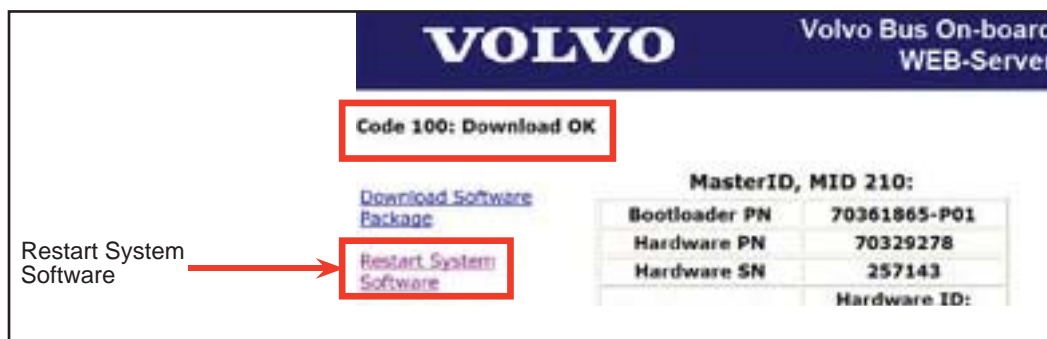

Figure 9 - Typical View of Restart System Request
- 1.18. Make sure the reprogramming was successful by verifying if the "Code 100: Download OK" is displayed in the window. If so, click on "Restart System Software" (see Figure 9).